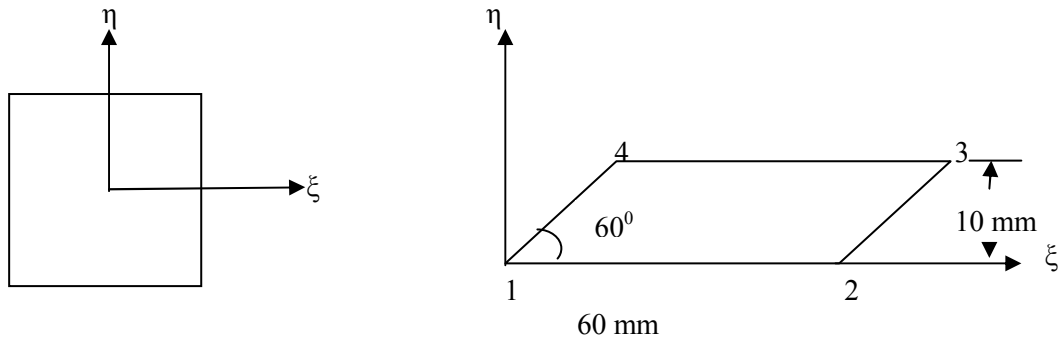

Fig. 1 (Q. 5)
- Q.5** Assemble Jacobian matrix and strain displacement matrix corresponding to the Gauss point (0.57735, 0.57735) for the element shown in fig. 1. Then indicate how you proceed to assemble element stiffness matrix. **12**